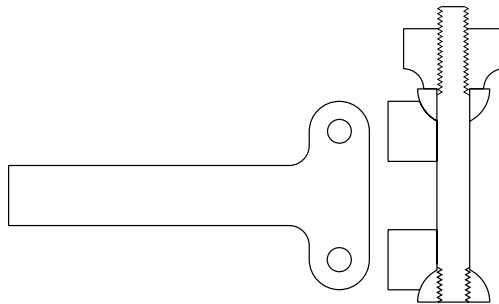

Fig. 15.31 Second example – **Section**
Second example – Section (Fig. 15.31)
4. Turn off all layers other than **Construction**. The resulting section is shown in Fig. 15.31.